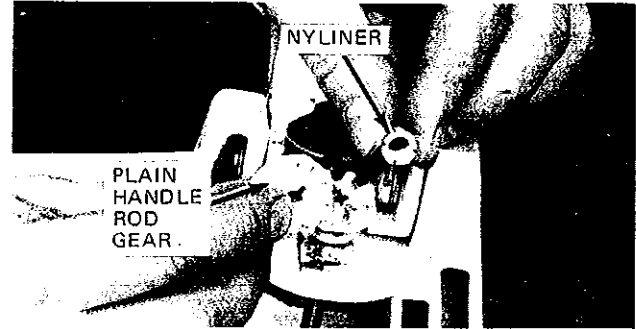

Figure 34
- d. Withdraw the handle rod, and remove the handle rod gear and nyloner (Figure 34).